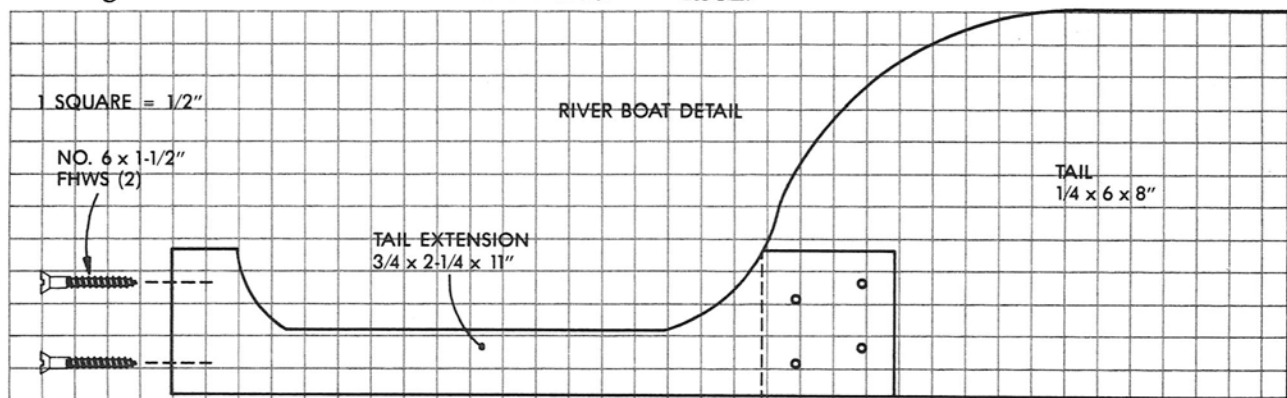

Figure 5-8. Tail piece and extension.
6. The tail is in two parts, an extension and a tail-piece (Fig. 5-8). Cut out the extension and the $1/4$ in. slot for the tail, 2 in. from the back. Hold the edge of the extension against the back of the boat, the bottom even with the hull bottom at the back of the lower deck. Mark that position for screws into the extension, then drill two holes for $1-1/4$ in. No. 6 screws. They will be approximately $5/8$ in. from the back of the boat.